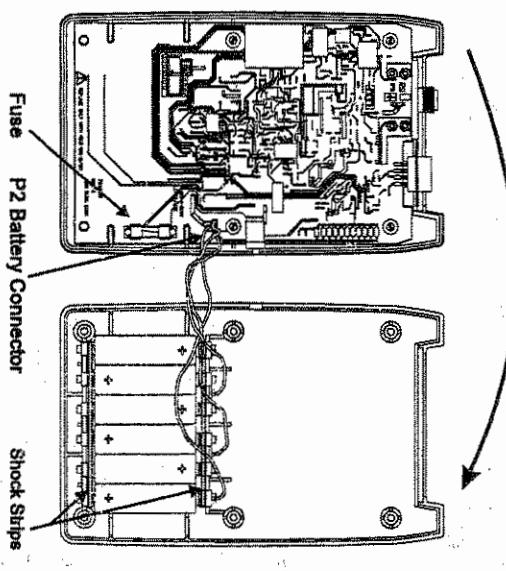

Figure 5. Battery/Fuse Replacement
- Install the new batteries checking the orientation of the positive and negative terminals. Polarity is indicated on the case, and in figure 5.